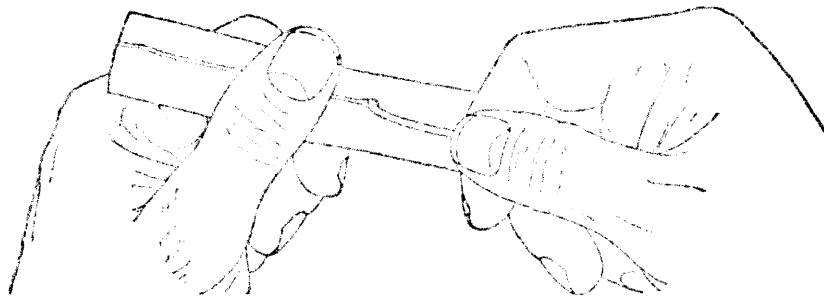

Fig. 1.
2.02 A convenient method for the removal of the protective covering is partially shown in Fig. 1. Repeat the operation shown until each rubber insulated conductor has been exposed as far as the butt mark, and then with diagonal cutting pliers or electrician's scissors neatly cut away the protective covering at the butt mark.